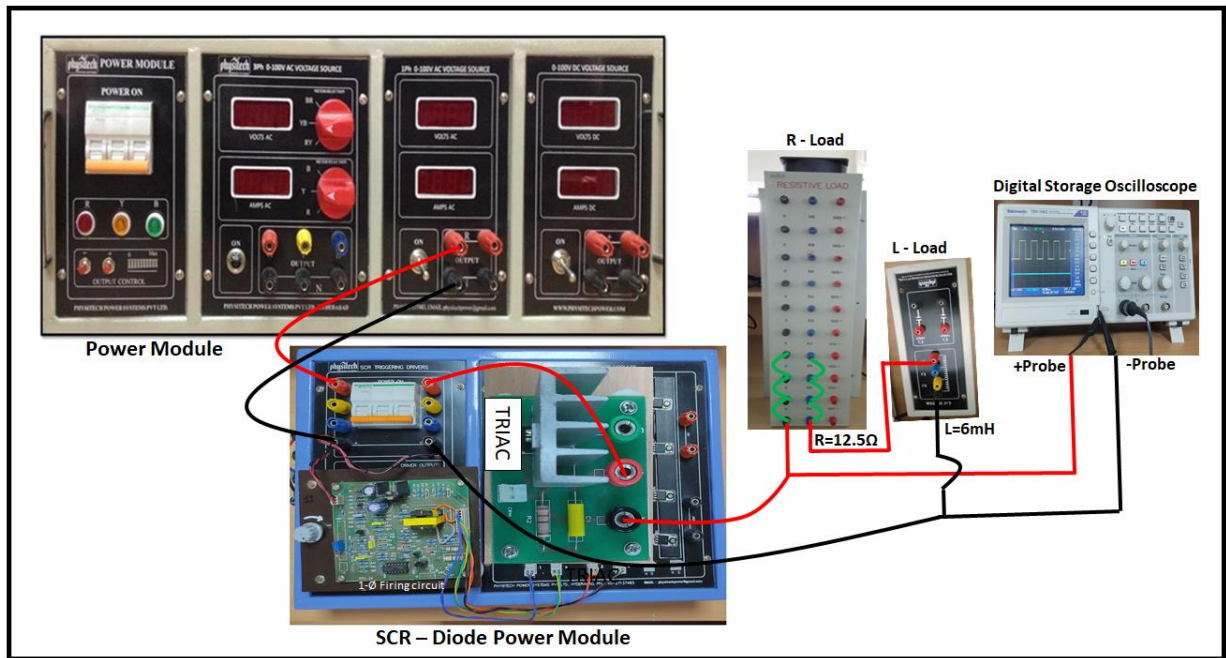

Fig. 4
1. Connect the circuit as shown in the Fig.4 (with RL load ($R=12.5\ \Omega$, $L = 6\text{mH}$))